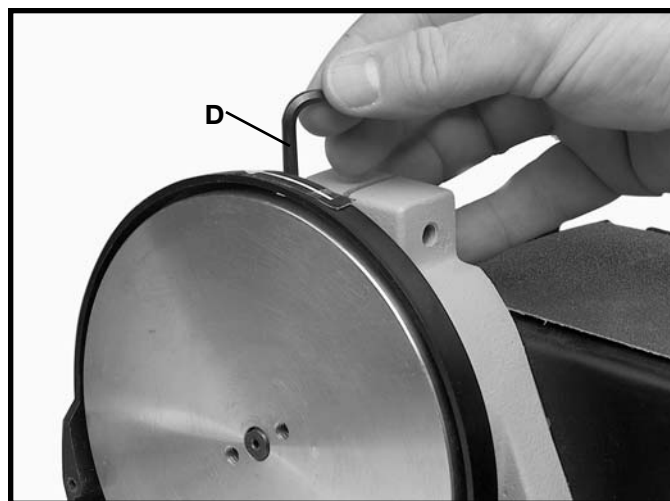

Fig. 8
3. Insert hex wrench (D) Fig. 8, down through slot in the back of belt and pulley guard and tighten set screw against flat on shaft.